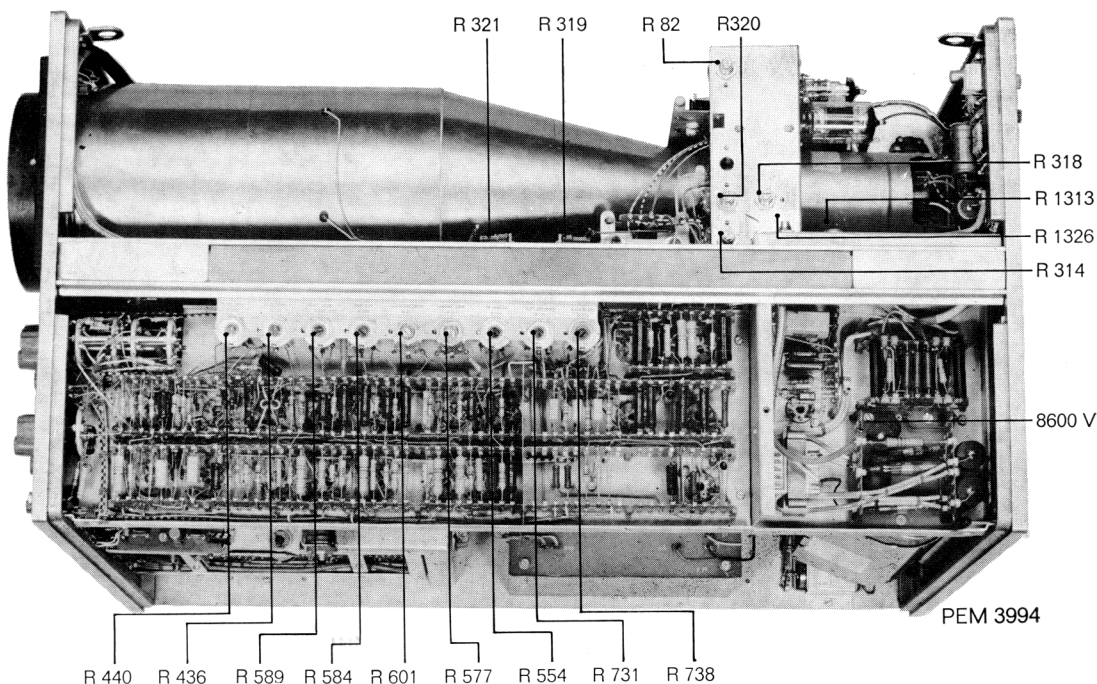
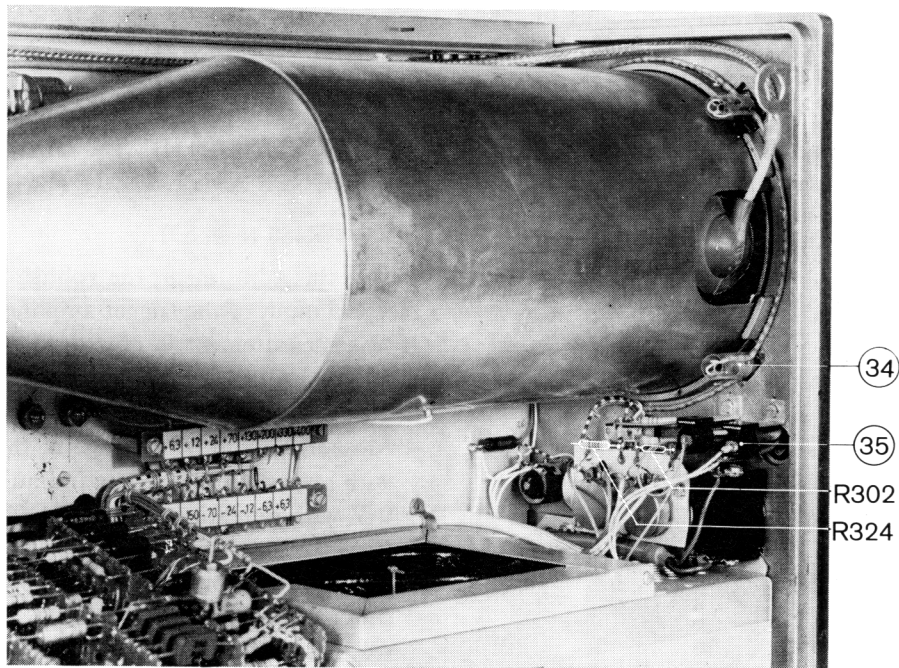
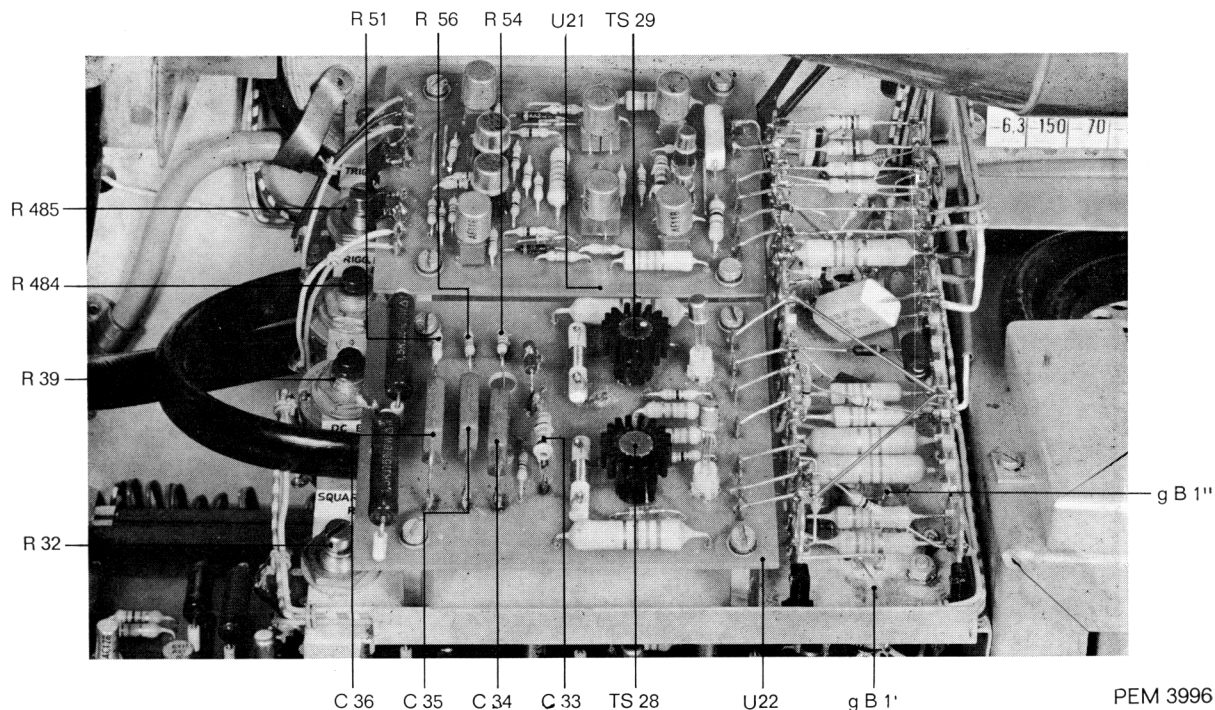

Fig. 54. Top-view of the interior
Fig. 56. Close-up of the rear of the CRT controls
Fig. 62. Close-up of the delay line driver and the trigger amplifier
R 1326 (Fig. 54)
R 320 (Fig. 54)
- The voltage difference between the interconnected Y-deflection plates and point g7 of the CRT (connection point 7 of the tube holder) should be adjusted to 0 V with potentiometer "SHIELD" (320)
2. Beam centring R314 (Fig. 54)
R1313 (Fig. 54) R302 (Fig. 56) R306 (Fig. 69)
R319-R321 (Fig. 54)
R324 (Fig. 56)
R318 (Fig. 54)
R82 (Fig. 54) R39 (Fig. 62)
- Interconnect the control grids of B1 and B1'. (Fig. 62) When using the test-unit PM 3361 this can be effected by depressing button "DC-BAL." while the test selector is in position "POWER SUPPLY".
R731 (Fig. 54)
C33–C34–C35–C36–R51–R53–R54–R56 (Fig. 62)